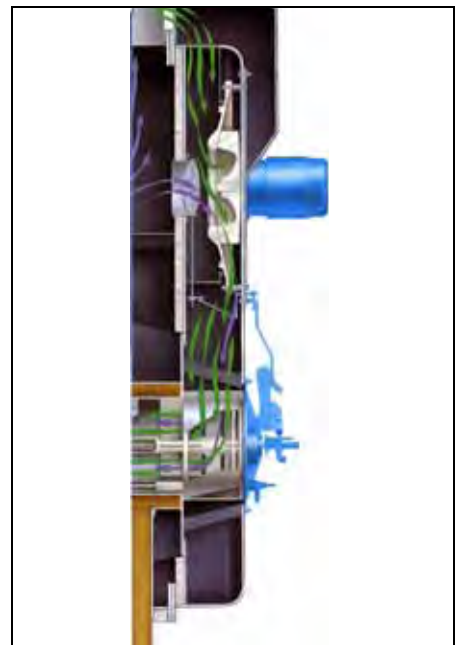

Figure 1-3 Induced Flue Gas Recirculation (IFGR)
The LE Option (**Figure 1-3**), available on Cleaver-Brooks Firetube Boilers, reduces Nitrogen Oxide (NOx) emissions, a major precursor to ozone pollution (smog). Carbon Monoxide (CO) emissions also tend to be lower, due to increased turbulence caused by the addition of the flue gases into the combustion air stream, thereby improving combustion.